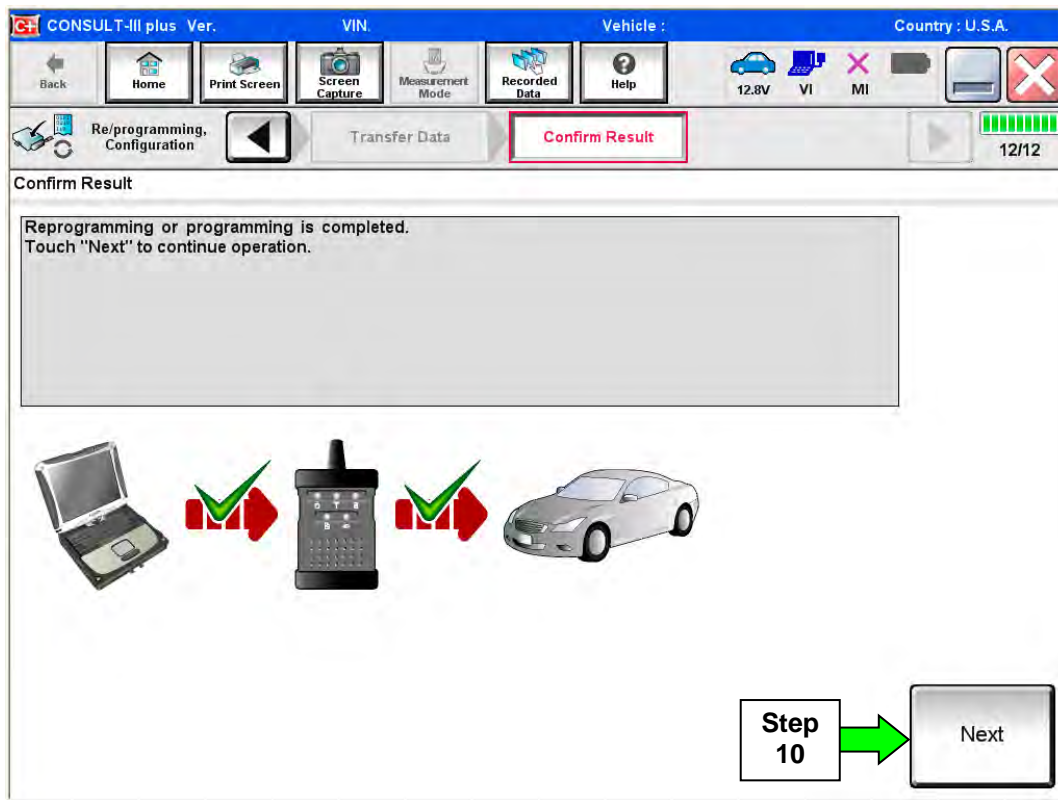

Figure 5
8. When the screen in Figure 5 displays, reprogramming is complete.
**NOTE:** If the screen in Figure 5 does not display (which indicates reprogramming did not complete), refer to the information on the next page.